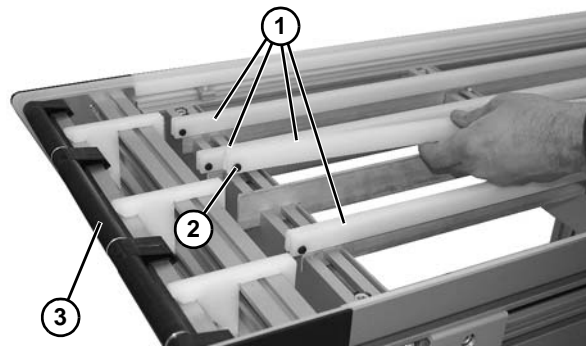

Figure 41
The top clip-on wearstrips (Figure 41, item 1) have a screw (Figure 41, item 2) on end of wearstrip on idler end (Figure 41, item 3) of conveyor so wearstrips do not move too far toward drive end.
2. Remove top clip-on wear strips (Figure 41, item 1).